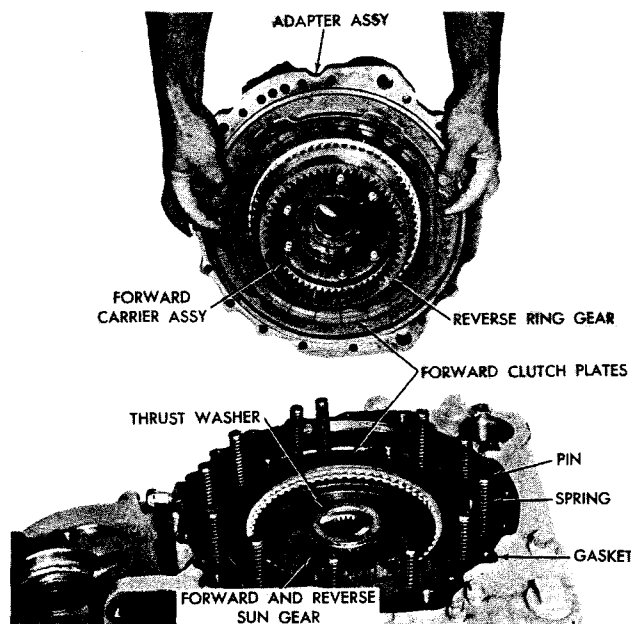

Fig. 5-39. Removing adapter assembly and attached parts (-3 underdrive model)
(1) Remove the adapter assembly, forward planetary carrier assembly and other attached parts as a unit (fig. 5-39).
(2) Remove six self-locking bolts 28 (B, foldout 9). Remove adapter assembly 24. Refer to paragraph 6-19 for rebuild of the rear housing adapter assembly.
(3) Remove forward clutch piston 17 with sealrings 18, 19, and 20. Refer to paragraph 6-11 for rebuild of the clutch piston assembly.
(4) Remove bearing 22 by using a puller bolted to retainer 21.
(5) Remove ring gear 14 and two clutch plates 15 and 16. Remove snapping 11 and separate ring gear 1 from carrier assembly 3. Refer to paragraph 6-13 for rebuild of the planetary carrier assembly.
(6) Remove the piston return springs and pins, four clutch plates, the forward and
reverse sun gear and thrust washer, and the adapter gasket (fig. 5-39).